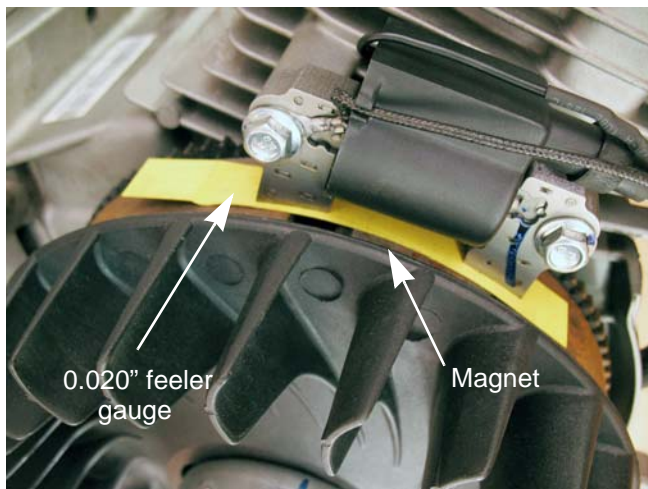

Figure 7.13
4. Rotate the flywheel so that the magnets align with the legs of the module while holding the feeler gauge in place. See Figure 7.13.